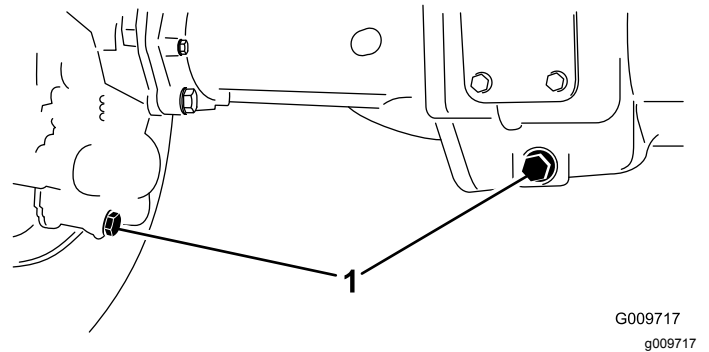

Figure 107
2. Clean the area around the 3 drain plugs—1 on each end and 1 in the center (Figure 107).